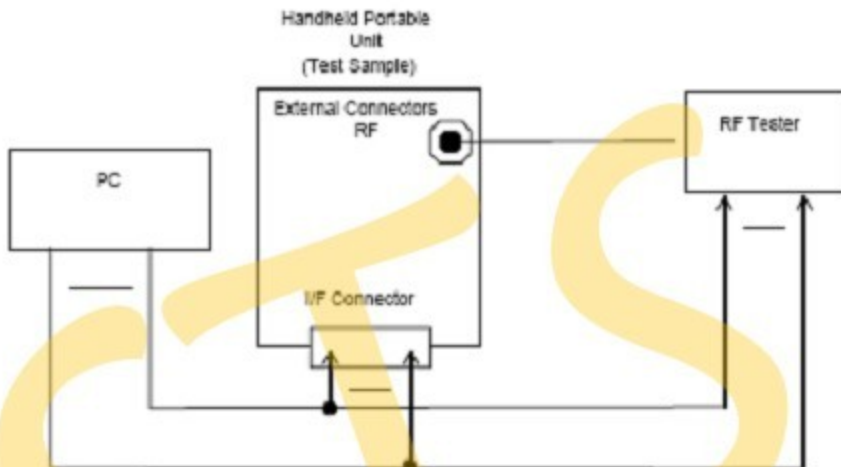

Figure 1
- (1) The test equipment setup as shown in Figure 1.
- (2) Operation of PC adjusts equipment.